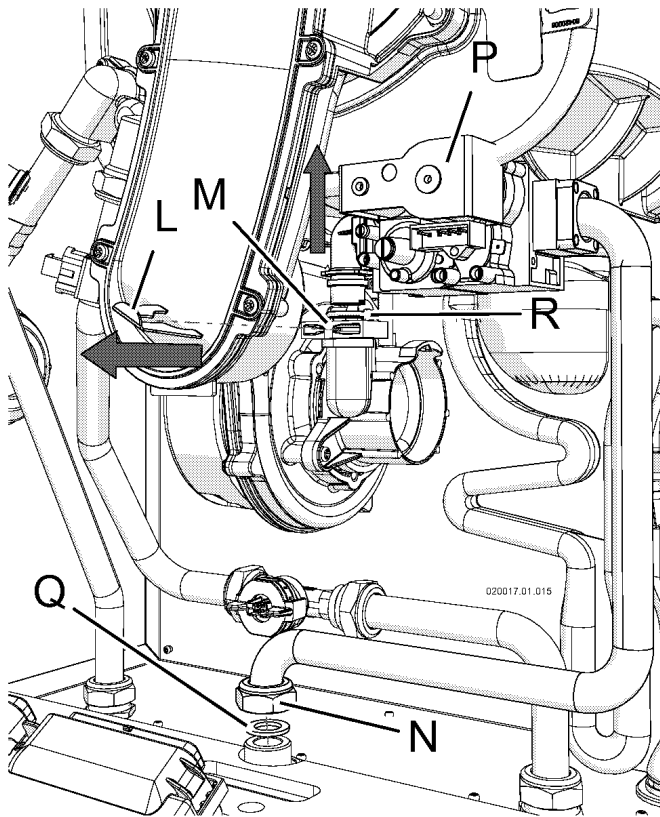
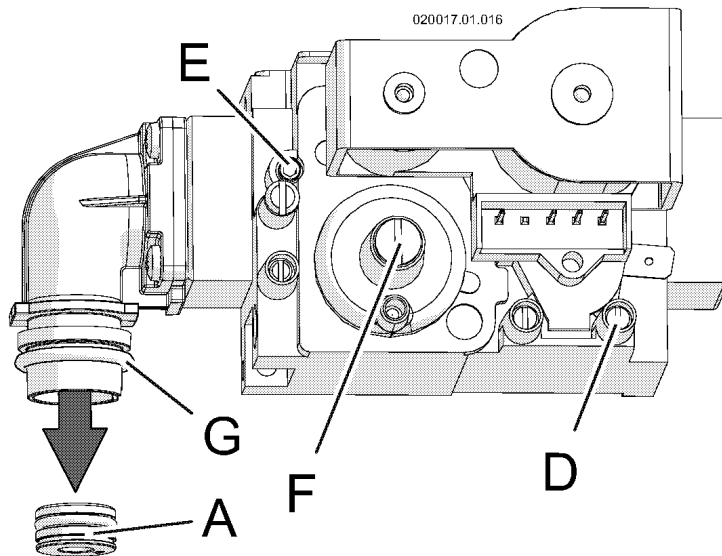

Figure 14-4 Nut and spring that fixes the gas valve
Figure 14-5 Remove the gas valve
5. unscrew nut "N" (Figure 14-4). Take care attention to the gasket "Q" (Figure 14-4).
6. take away the spring "L" as per Figure 14-4.
8. Remove the gas valve from its position (see Figure 14-5). Take care attention to the o-ring "G" of Figure 14-5;
16. reassemble the components by proceeding in reverse order. Taking care attention in the reinstalling of gasket "Q" of Figure 14-4 and of the o-ring "G" of Figure 14-5. These must be in good condition. If not they must be replaced with some new one;